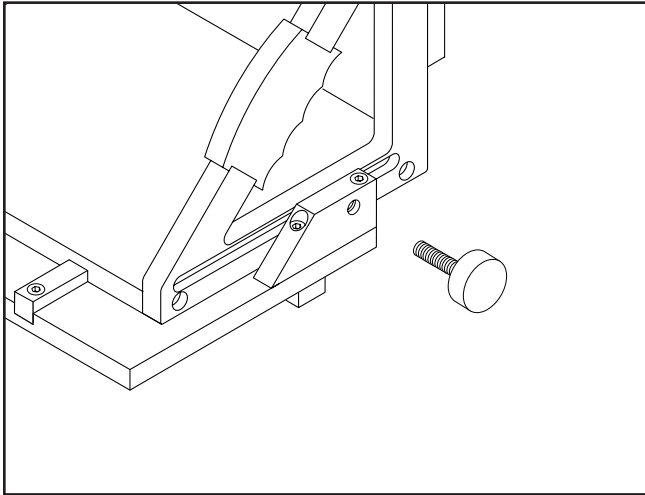

Figure 1. Lock knob installation.
1. Thread each of two (2) lock knobs into the lock knob brackets mounted on the base plate. Figure 1.